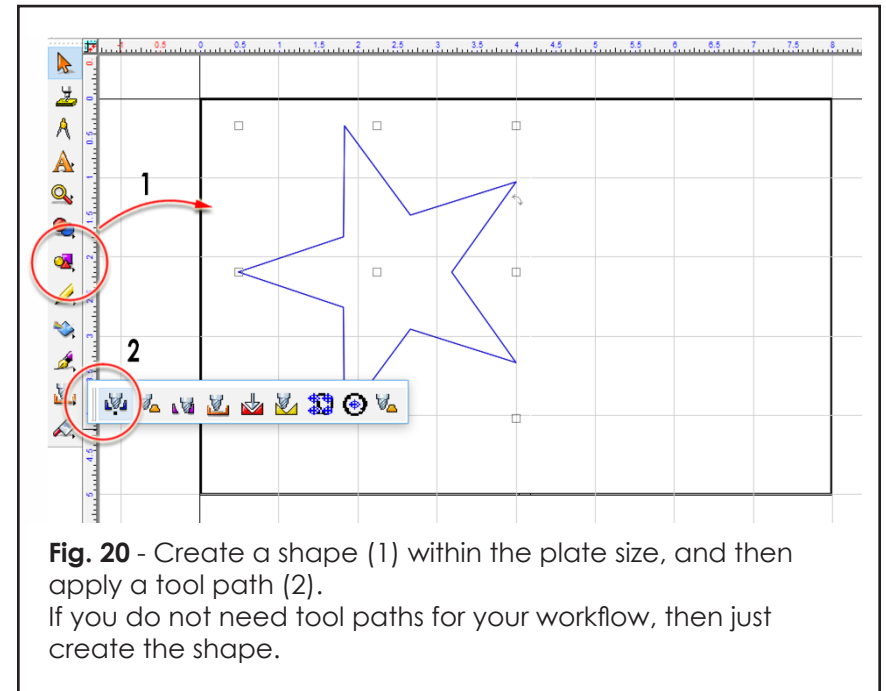

Fig. 20 - Create a shape (1) within the plate size, and then apply a tool path (2).
Previously on the **Output** dialog, if you had chosen to set depth/pressure settings on the engraver control panel (rather than use tool paths), then create a star shape (Fig. 20) and proceed to "Previewing and Cutting Your Design" on page 46.
31. On the Vision 10 Software workspace, use the **Shape Tools** >> **Star** tool to create a rectangle shape (Fig. 20).